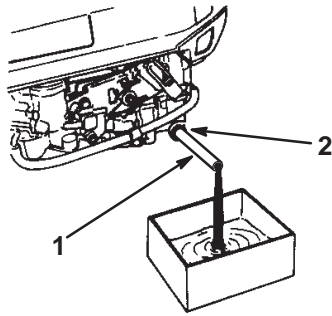

Figure 21
5. Raise the left side of the lawn mower at least 12 inches (30 cm) and open the side oil drain plug (Fig. 21).
6. Insert the oil drain tube over the drain plug and lower the lawn mower (Fig. 21).